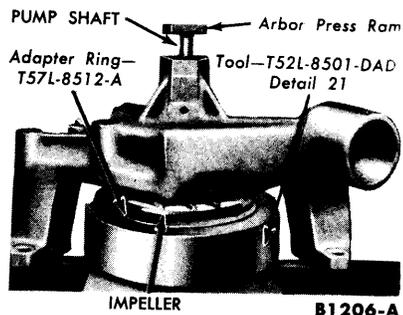

FIG. 8—Impeller Installation
5. Replace the impeller if it is worn or damaged. Coat the seal rubbing face of the impeller lightly with grease. Press the shaft into the impeller (Fig. 8). Press the shaft into the impeller until the pump housing lightly touches the face of the adapter ring. If excessive pressure is exerted on the shaft after the rear face of the housing contacts the adapter